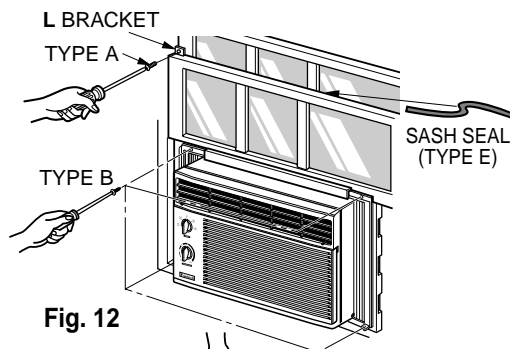

Fig. 12
Extend the Guide Panels (TYPE F) to fill the window opening using 4 screws (TYPE B) to secure them, as shown in Fig. 12.
- Cut the Sash Seal (TYPE E) to the window width. Stuff the Sash Seal between the glass and the window to prevent air and insects from getting into the room, as shown in Fig. 12.
- Fasten the L bracket using a screw (TYPE A), as shown in Fig. 12.